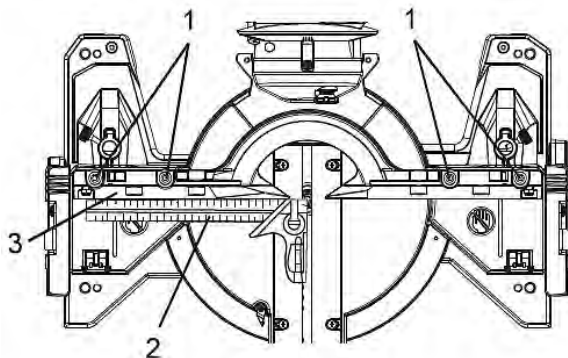

Fig. 22: Perpendicularity of the stop
Setting the squareness of the fence (Fig. 22)
Step 2: Loosen the four locking screws (1).
Step 4: Using a combination square (2), place the heel of the square against the saw blade and the ruler against the stop (3) as shown in Fig. 22.